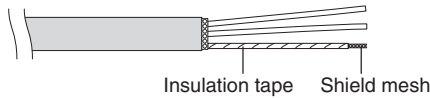

Fig. 4-8
- (2) Unbraid the braided shield carefully and twist the unbraided shield wires tightly together. Insulate the shield wires by covering them with an insulation tube or wrapping insulation tape around them. (Fig. 4-8)